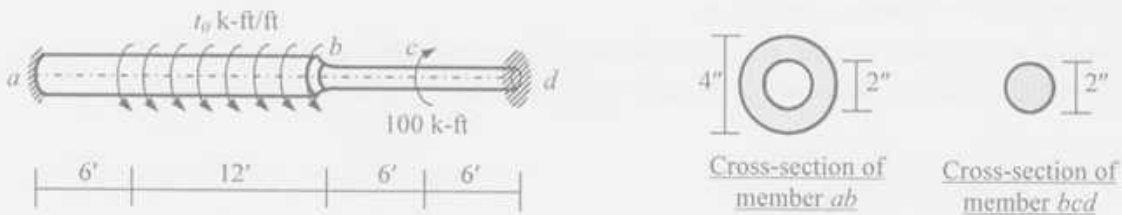

Fig. 2
- For the rotating shaft $abcd$ shown in Fig. 2